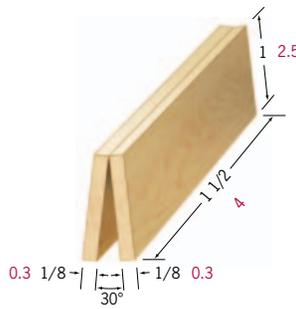

Fig. 5 \_\_\_\_\_
- Fig. 5** edge joint; Example: Answers will vary. Sample answers: shelves, drawer handles.